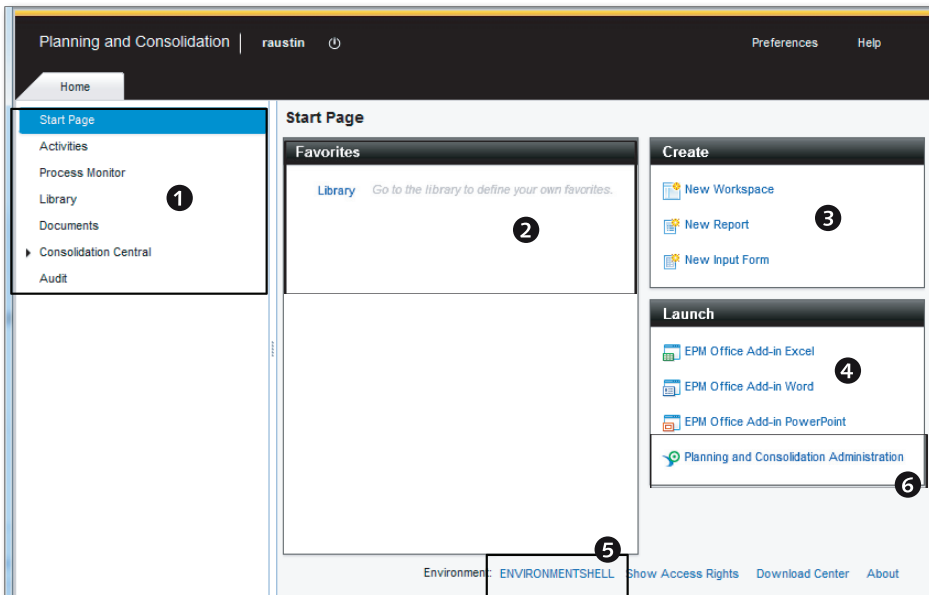

Figure 3.21 Accessing the SAP BPC Web Client—Part B
- After entering your user ID and password, click on the LOG ON button. Your login information will be authenticated, and based on the access granted to your user ID, you will be presented with the screen shown in Figure 3.21. The HOME workspace includes the components that you are authorized to access. The navigation pane in the left includes the components to configure the system in SAP BPC (Figure 3.21, ❶). Some of the components include views to enable detailed configuration for that area (Figure 3.21, ❷, ❸, and ❹). The following is a brief description of the components and views shown in the navigation pane:
4. The name of the environment to which you are logged in is shown in Figure 3.21 (5). Click on the **PLANNING AND CONSOLIDATION ADMINISTRATION** link in the **LAUNCH** area (Figure 3.21, 6).